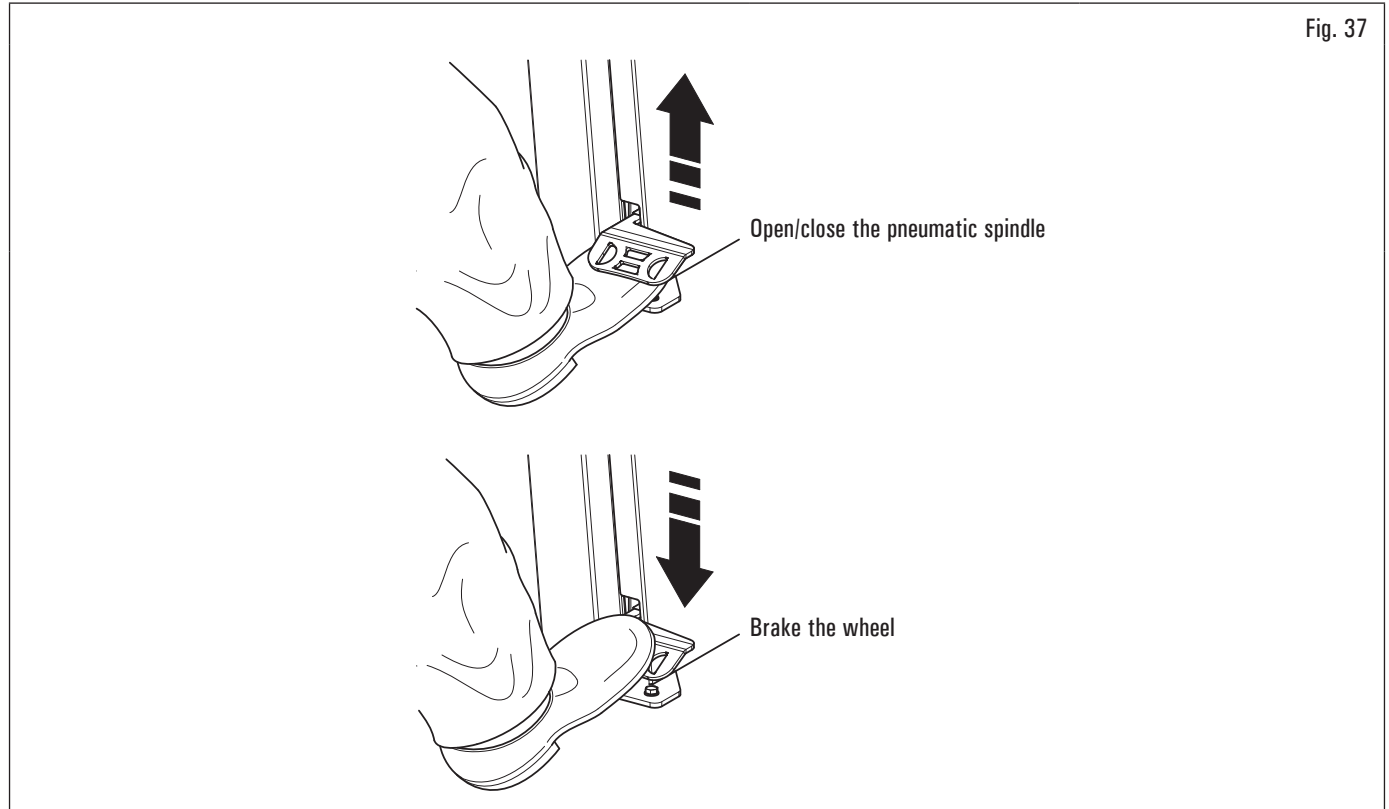

Fig. 37
1. If the pneumatic spindle is closed, open it by lifting the specific pedal, see Fig. 37;